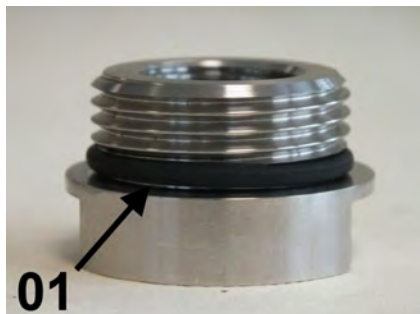

Fig. 49: Properly positioned O-ring
1. ➤ Carefully install the O-rings (Fig. 48/02) with the aid of the O-ring installation tool (Fig. 48/01) onto both process connections (inlet and outlet), so that they are properly seated in the O-ring grooves of the process connection (Fig. 49/01). When doing so, be careful not to overstretch the O-rings.
2. ➤ Position the O-ring properly on the process connection (Fig. 49)